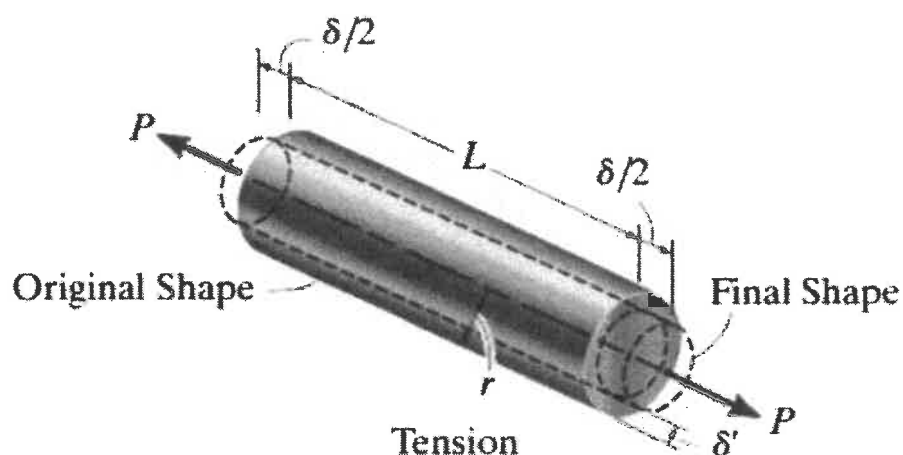

Figure 9: Tensional Testing for Rod
- Refer Below - Figure 9 : Tensional Testing for Rod .*